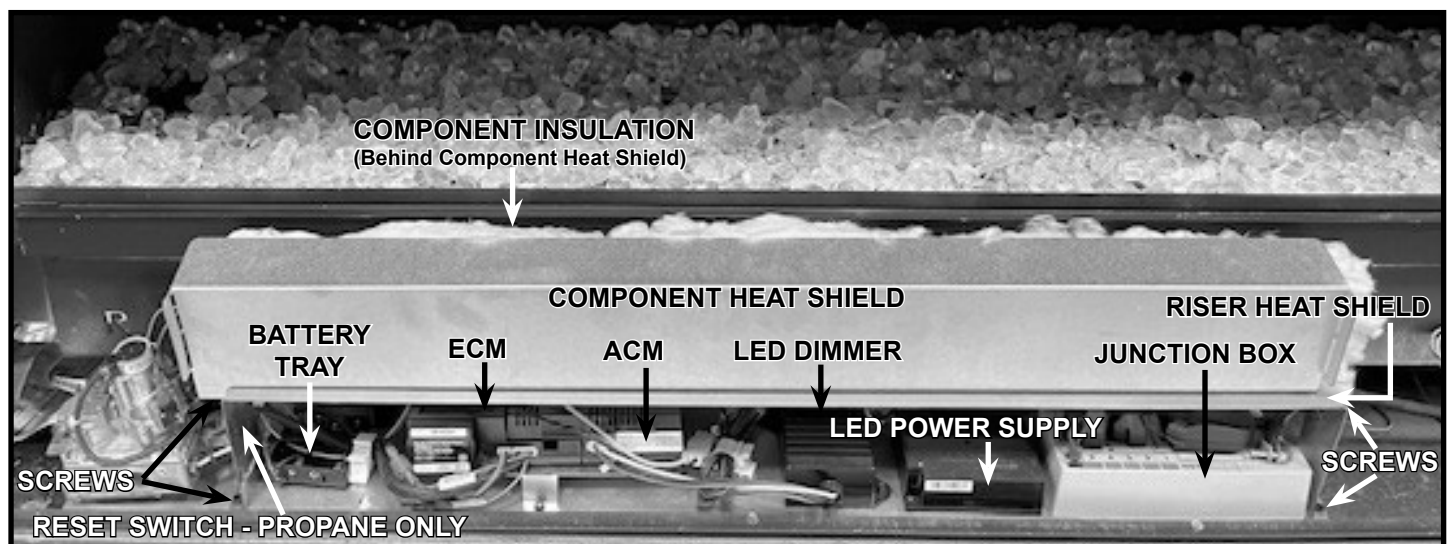

Figure 8.2 Valve Cavity (Lower Access Panel Removed)
3. Remove screws on left and right sides of the riser heat shield and lift it out of the control cavity. See Figure 8.2 for location of screws.